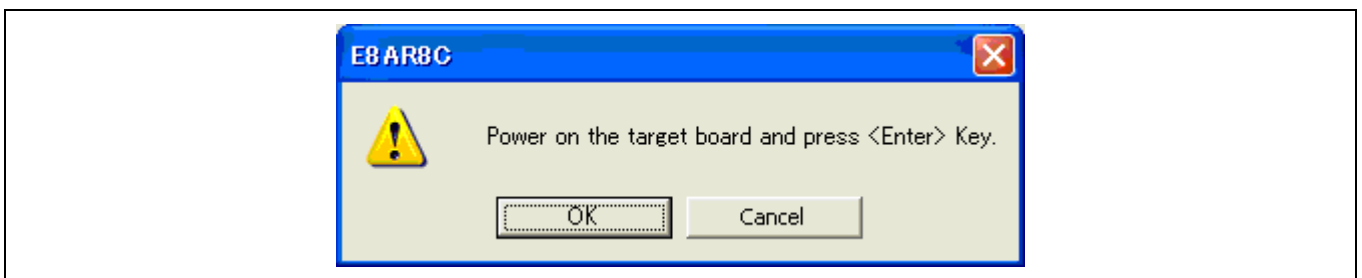

Figure 3.16 Dialog Box of the Power-on Request Message
- When [Power Target from Emulator. (MAX 300mA)] is not checked, the dialog box shown in Figure 3.16 will be displayed.